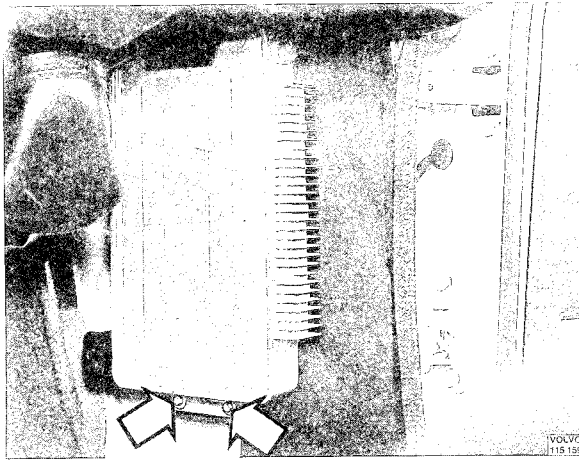

Fig. 2-88. Removing control unit
2. Remove the bolt between the tubular bend and the link screw. Move the seat to the front stop position and fold it backwards, see Fig. 2-88.